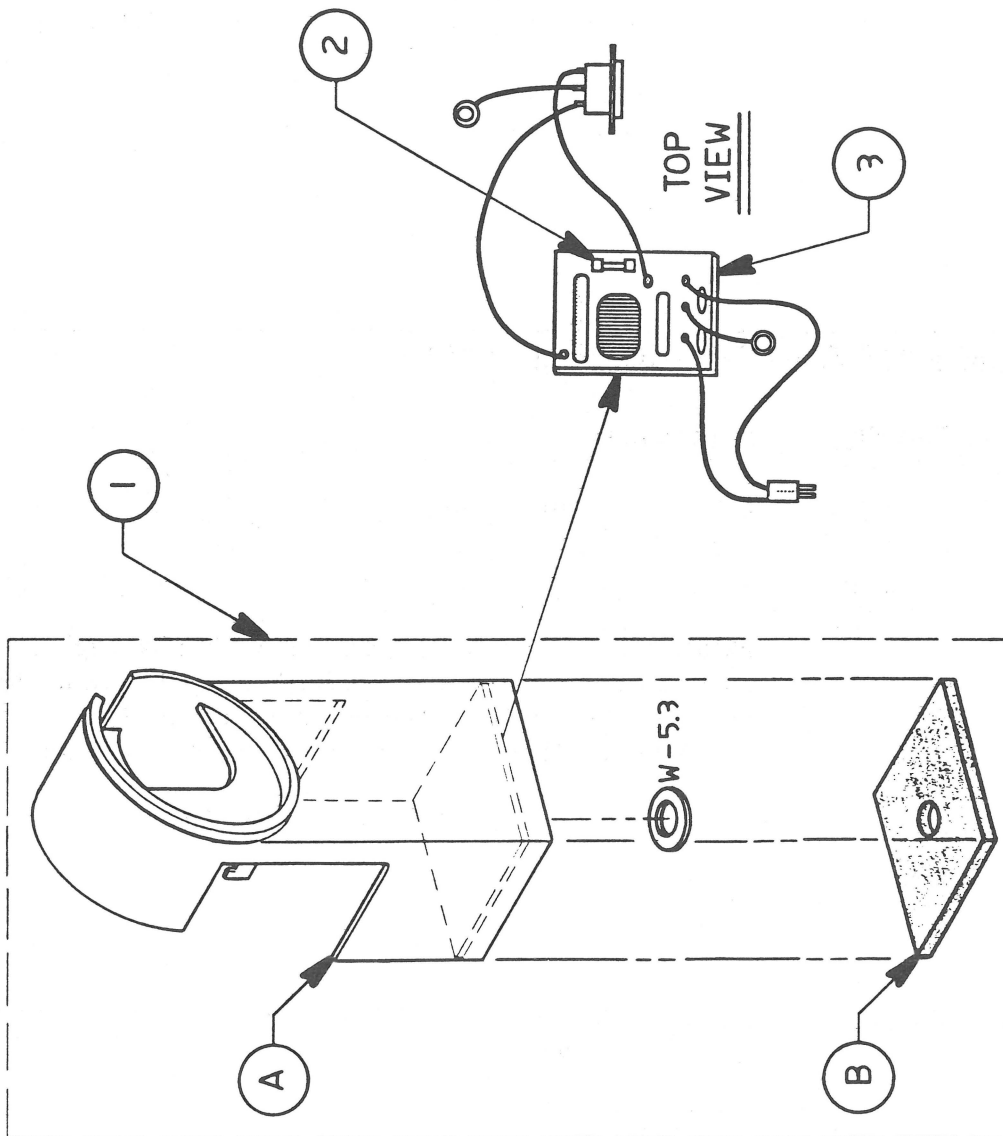

FIGURE 21
□ SUPPORT LEG ASSEMBLY (Right) (Figure 21)